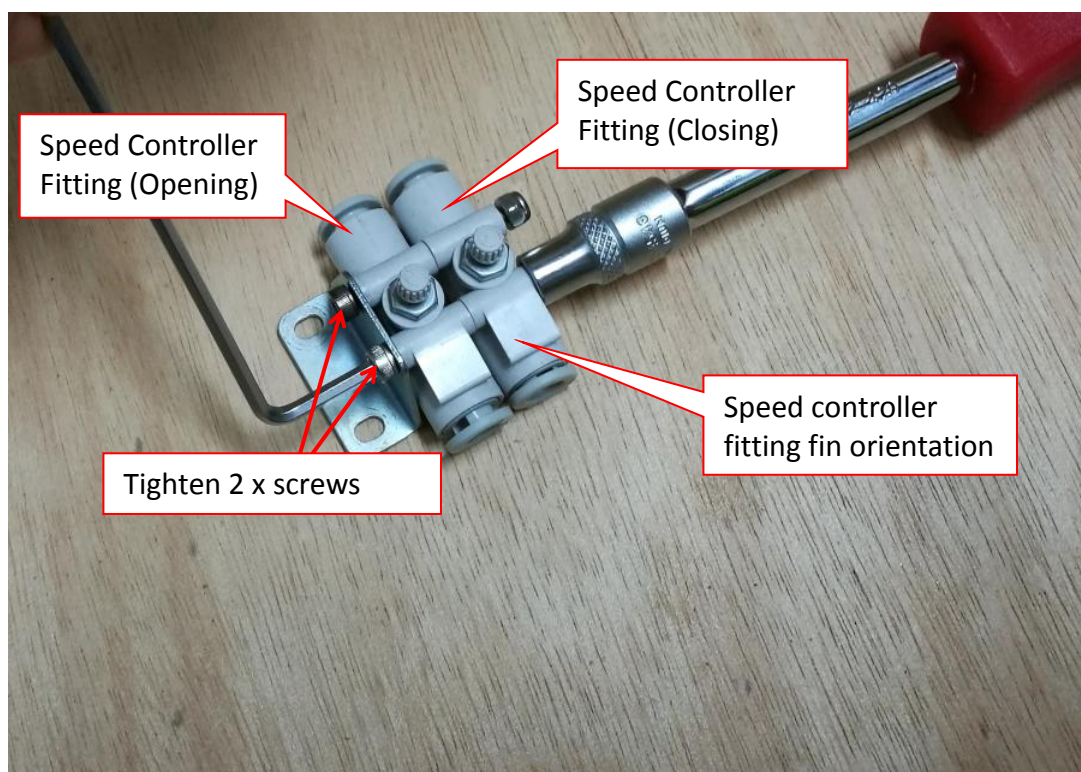

Figure 4 Closing speed controller fitting assembly
- Assemble New Speed Controller Fitting & tighten 2 x Screws as shown in Figure 4.